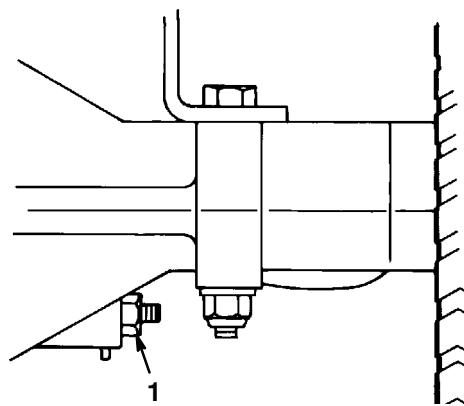

Figure 20
The brake is on the right side of the rear axle, inside the rear tire (Fig. 20). If the brake does not hold securely or stopping power is insufficient, an adjustment is required.
2. To increase braking resistance, tighten the brake adjusting nut (Fig. 20) 1/8 turn clockwise; then check the brake again. Continue this adjusting and checking process until the brake is set properly.